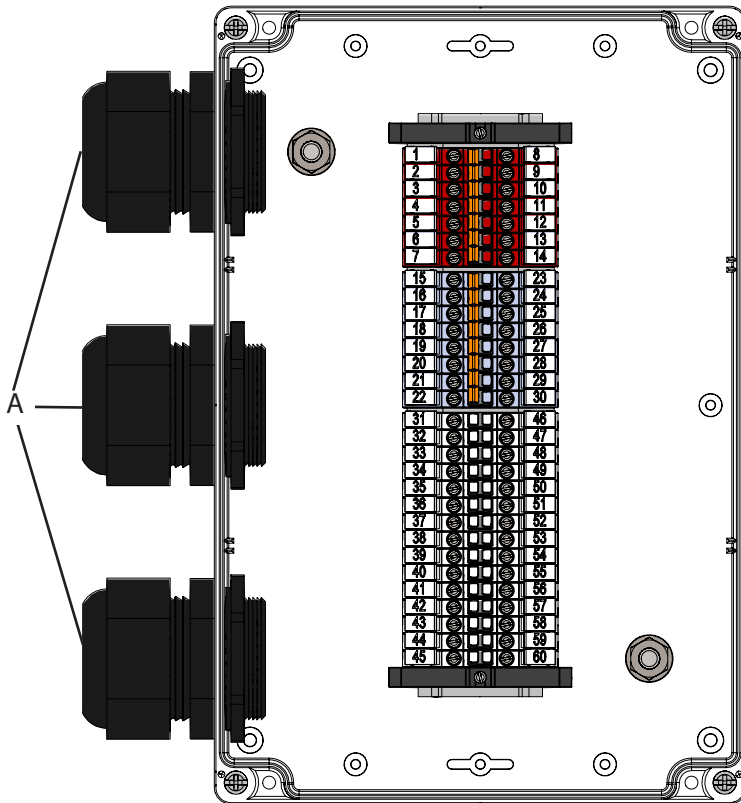

Figure 1
- Route through the strain reliefs on the junction box (A, Figure 1)